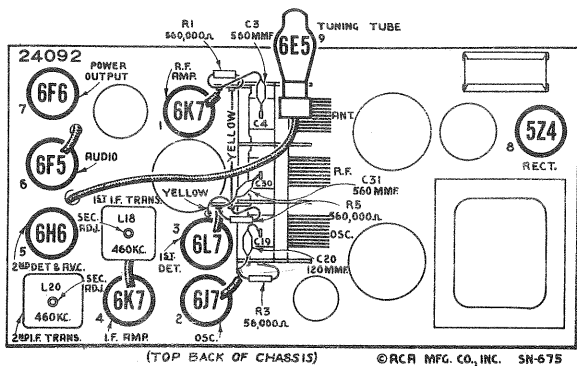

Figure 1—Radiotron and I-F Trimmer Locations
- Adjust the two magnetite core screws L20 and L19 (see figures 1 and 7) of the second i-f transformer (one on top and one on bottom) to produce maximum vertical deflection of the oscillographic image. This adjustment places the transformer in exact resonance with the 460-kc signal.